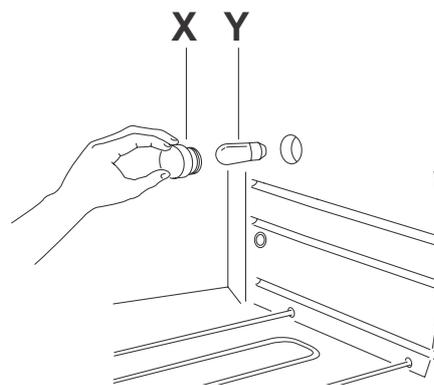

fig. 12
- unscrew the protective glass cover (X), by turning it anti-clockwise, and replace the bulb (Y) with a new one of the same type (see fig. 12). Replace the protective glass cover (X).